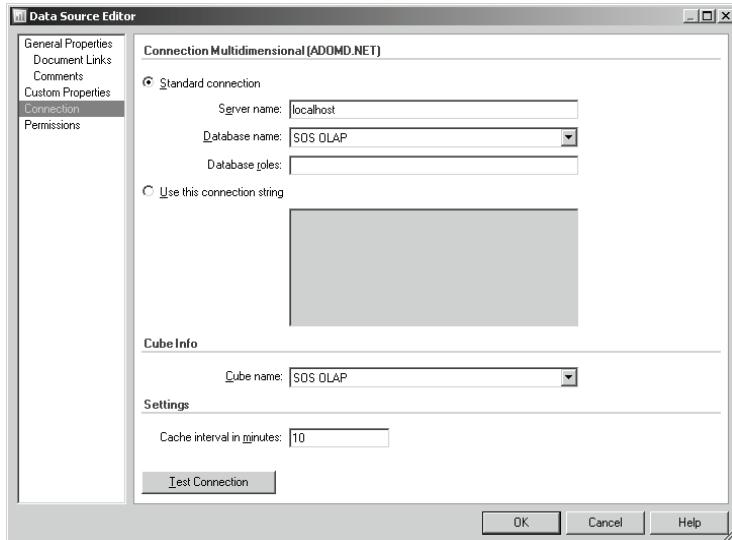

Figure 19.30 Specify the connection options to the data source.
- Check the *Grant Read permissions...* to allow the authenticated users to read data. Click Finish to close the Create Data Source Wizard and launch the Data Source Editor (Figure 19.30).